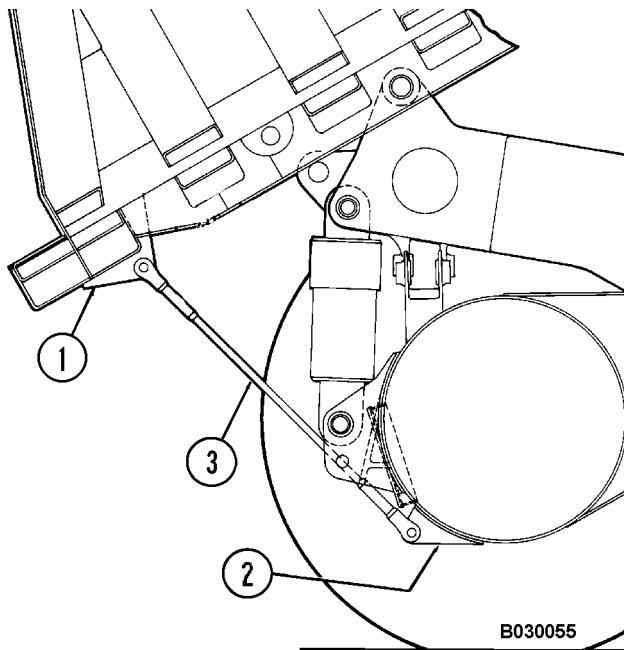

FIGURE 3-1. BODY RETENTION SLING INSTALLATION
2. Install two shackles and body retention sling (3, Figure 3-1) between rear body ear (1) and axle housing ear (2).